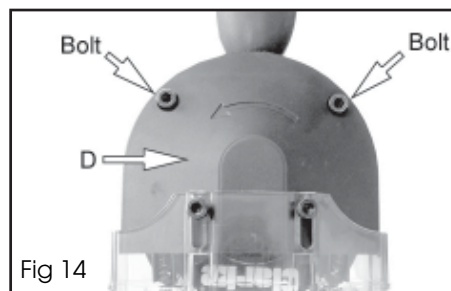

Fig 14
1. Unscrew the bolts indicated using the hexagonal key supplied and remove the protective cover (D). See Fig 14.